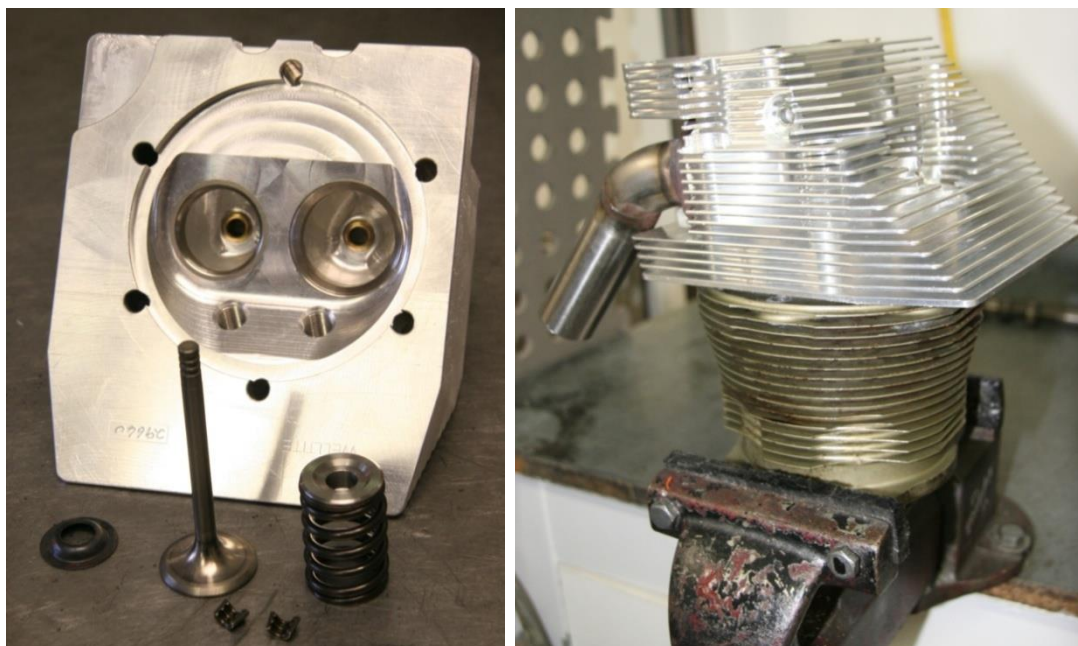

Figure 95 – Valves Assembly, Cylinder Head / Cylinder Lapping
- If second-hand cylinder heads are being used they must be lapped to seal onto the cylinder spigot. The process is similar to grinding a valve – valve grinding paste is applied to the cylinder spigot and the head rotated against it. An old, unservicable cylinder, held in a vice, should be used for this task. This step is not necessary with new heads. Figure 95 refers.